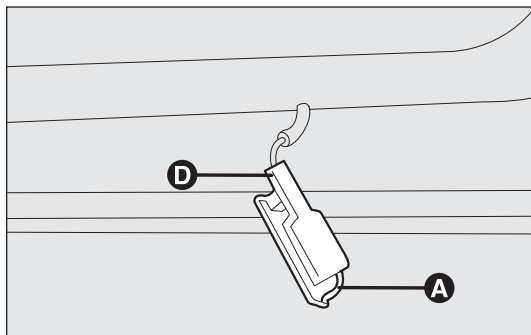

fig. 181
PUDDLE LIGHTS fig. 181
- ☐ remove the light by pressing clip A-fig. 181 with a screw-driver;
- ❑ refit the light by first inserting side D-fig. 181 and then pressing the other side until you hear the clip lock into place.